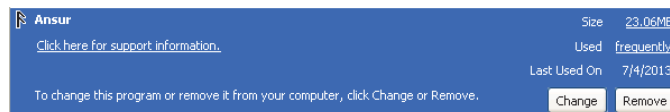

Figure 2-6. Ansur Selected for Removal
2. Locate and select the entry labeled Ansur. Figure 2-6 shows when Ansur is selected.